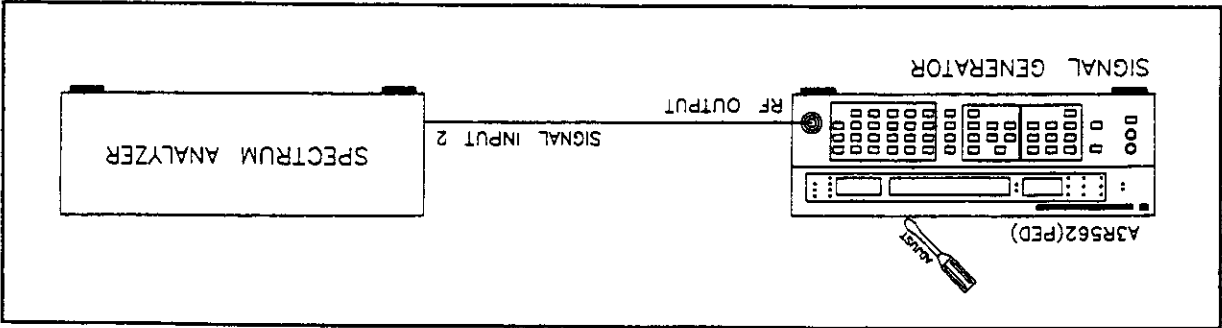

Figure 5-30. Pedestal Adjustment Setup
- Connect the RF OUTPUT of the Signal Generator to the spectrum analyzer as shown in Figure 5-30.